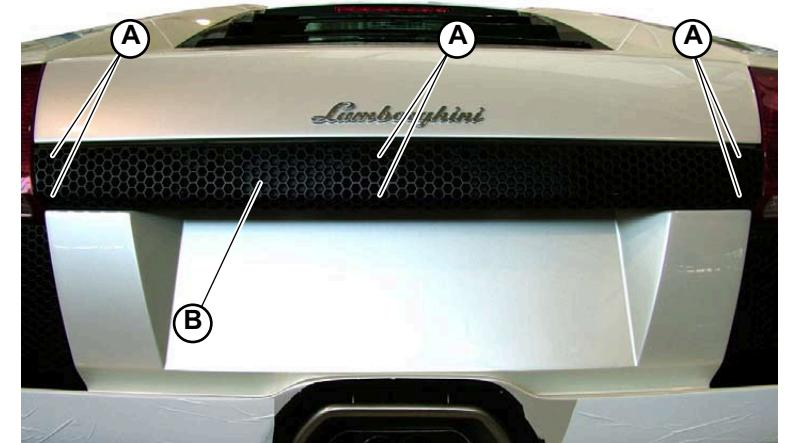

Fig.1
1. Unscrew the 6 screws (A-Fig.1) securing the rear central grid (B-Fig.1) to the body.